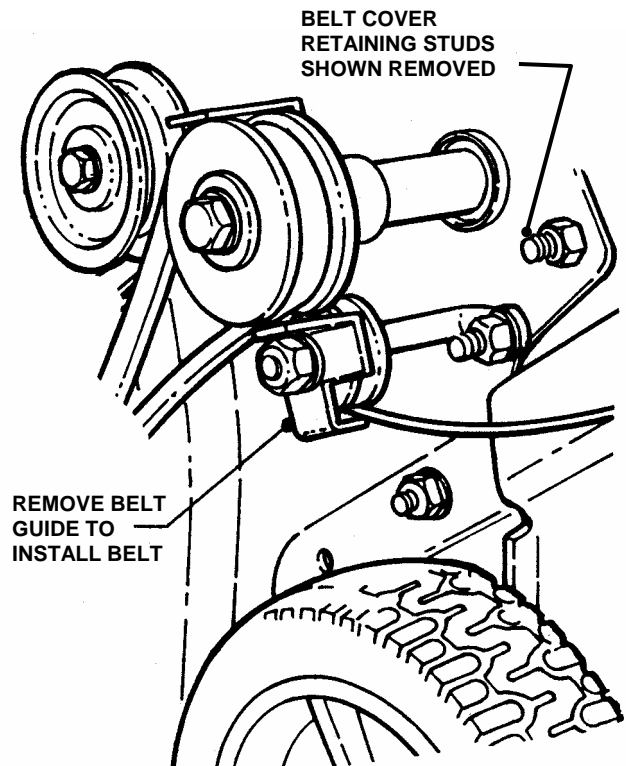

FIGURE 4.4
2. Remove belt guide. See Figure 4.4.